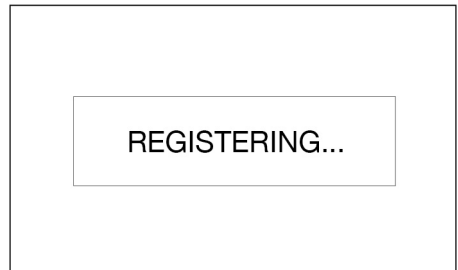

FIG. 13
5. REGISTERING appears in the middle of the display during registration (FIG. 13).